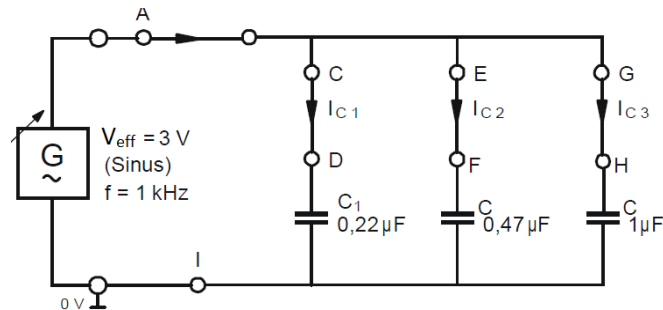

Figure 10
- 13) Connect the circuit as shown in **Figure 10**. Measure the voltage V and the currents V_{C1} , V_{C2} , V_{C3} , and V_{ctot} and I_{ctot} , I_{C1} , I_{C2} , and I_{C3} . Calculate (from the measured voltage and measured currents the values of X_{C1} , X_{C2} , X_{C3} and X_{ctot} , then C_1 , C_2 , C_3 and C_{tot} .